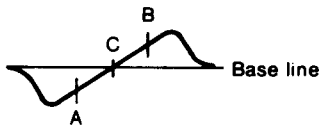

Fig.2
- Use the T202 core to form the S-curve shown in Fig. 2. Adjust the symmetry of A and B about point C for linearity.